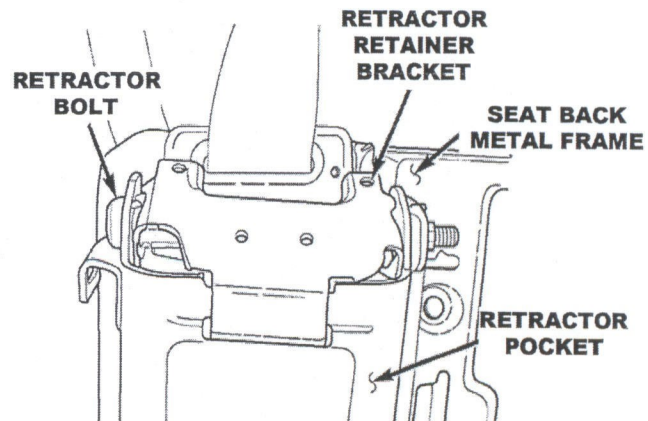

Figure 6 Seat Back Front View
24. Remove the retractor bolt that secures the retractor retainer bracket to the top of the retractor pocket on the front upper outboard corner of the seat back frame (Figure 6).
25. Remove the retractor retainer bracket from the top of the retractor pocket on the seat back frame (Figure 6).
31. Position the retractor retainer bracket over the top of the retractor pocket on the front upper outboard corner of the seat back frame (Figure 6).
32. Install and tighten the retractor bolt that secures the retainer bracket to the top of the retractor pocket on the seat back frame. Tighten the bolt to 32 ft-lbs (43 N·m) (Figure 6).